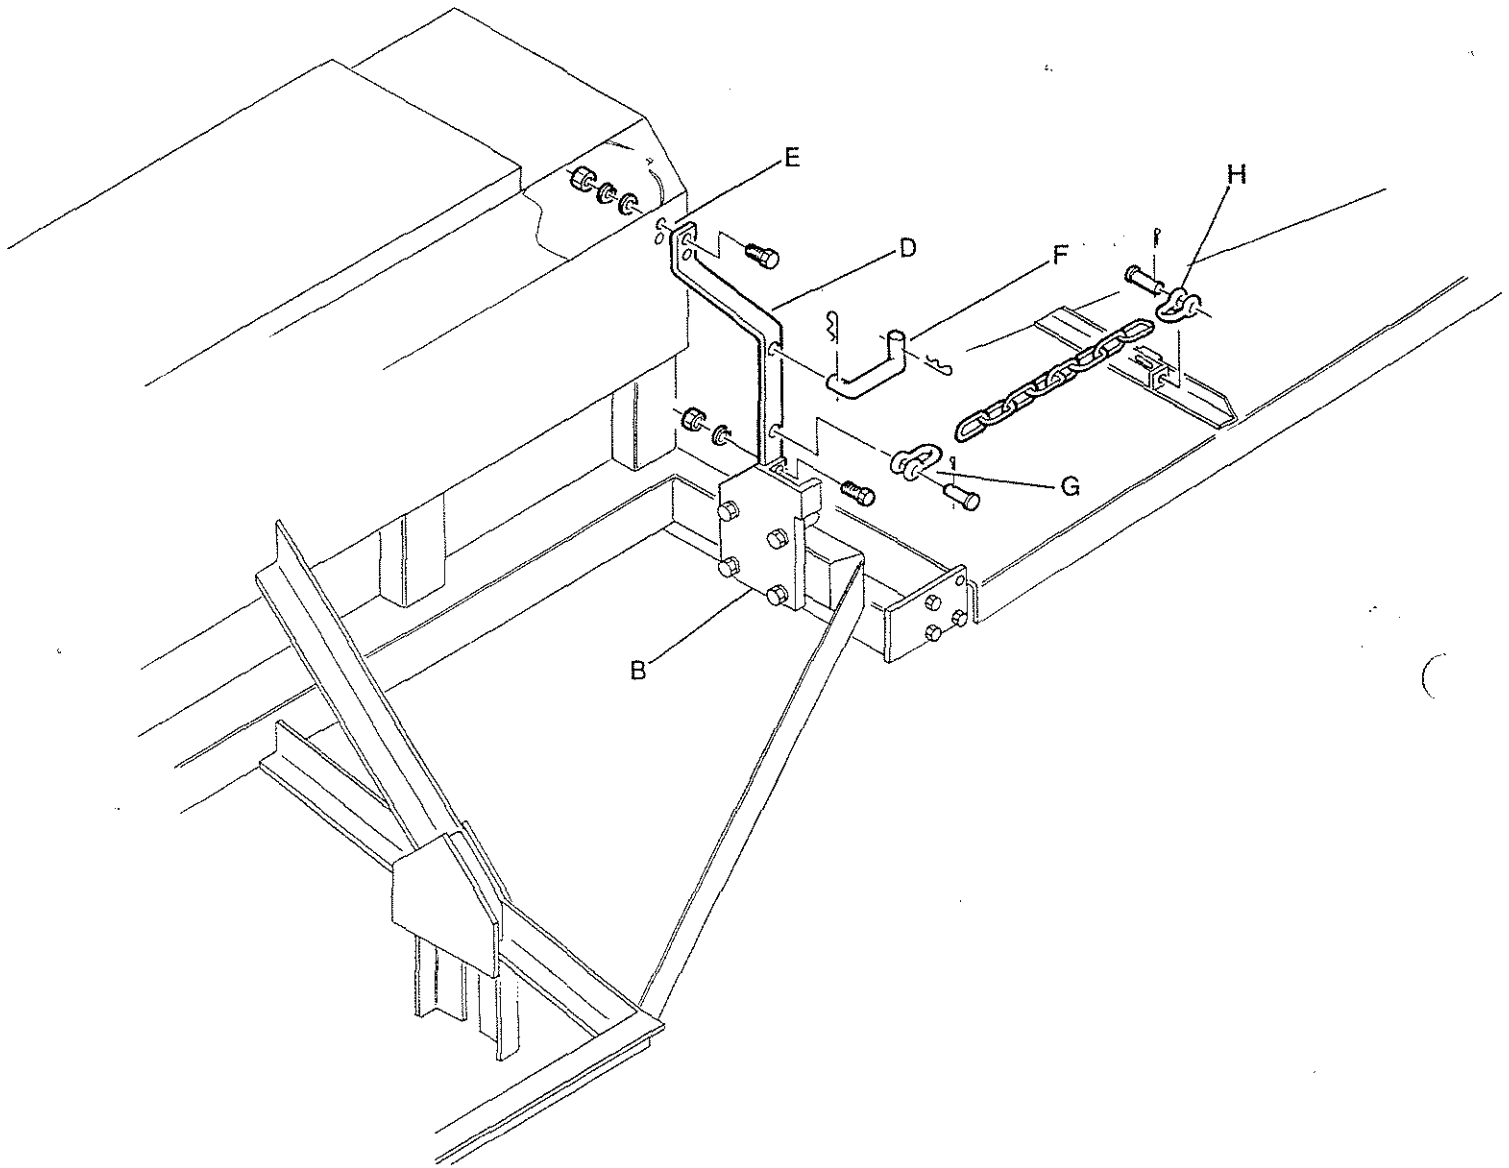

Figure 2
3. Attach bottom of Marker Lock Bar (D) to Mounting Plate (B) with two  $\frac{3}{8}$ " x  $1\frac{1}{2}$ " long bolts, lockwashers and hex nuts (see fig. 2). Drill two  $\frac{13}{32}$ " holes (E) into Seed Box aligning with holes in top of Lock Bar. Secure Lock Bar to Box with two  $\frac{3}{8}$ " x  $1\frac{1}{2}$ " long bolts, flatwashers, lockwashers and hex nuts inside box panel.